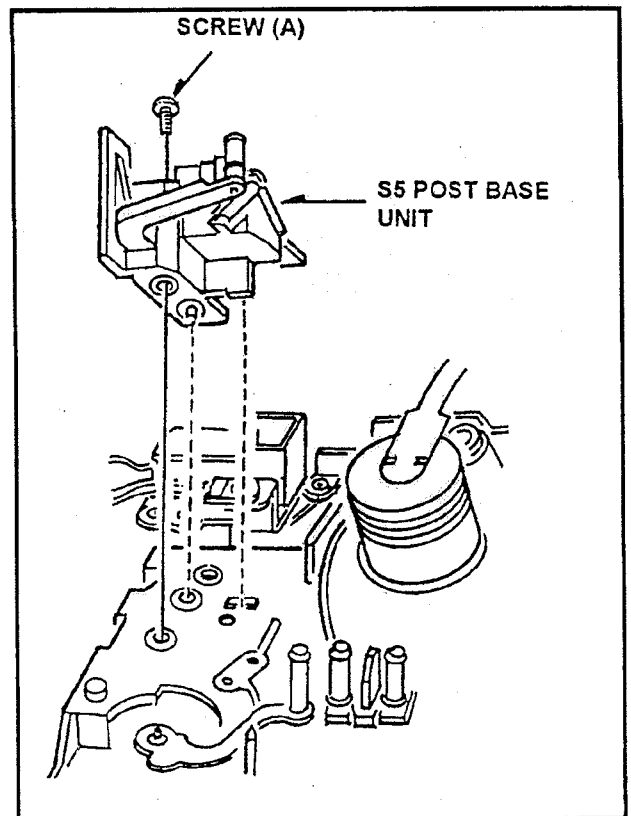

Fig. M23
2. Unscrew the screw (A) and remove the S5 Post Base Unit as shown in Figure M23.